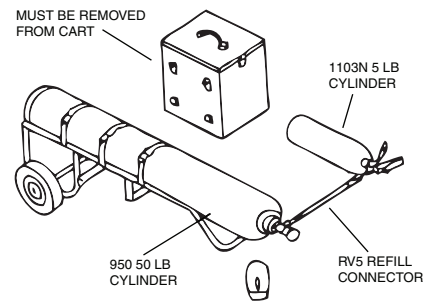

Figure 17
- Attach the other end of the RV5 to the 5 lb. cylinder valve by plugging it into the quick coupling (Refer to Figure 17).